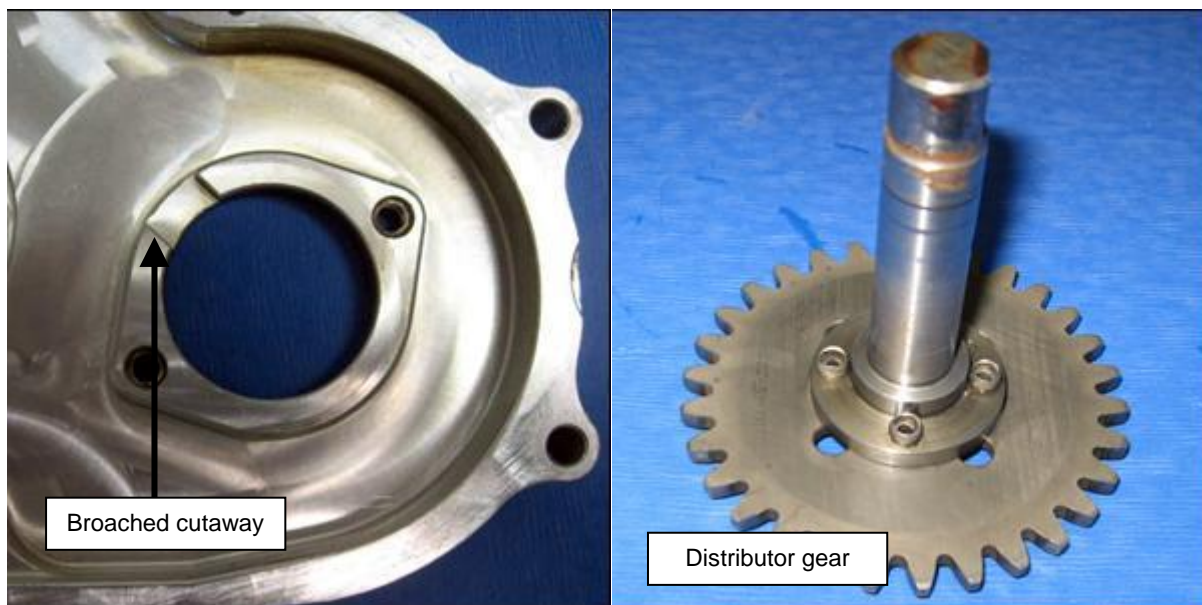

Figure 109 – Distributor Gears & Case
- If deep score marks (from the seal) are present (as shown in Figure 109 – right) the shaft must be replaced.